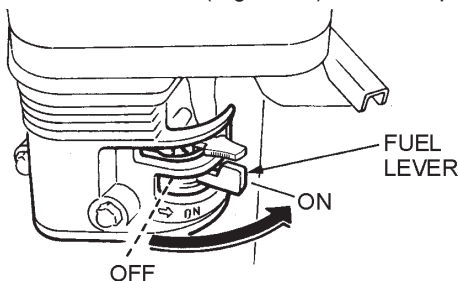

Figure 19. Engine Fuel Valve Lever
1. Place the **fuel valve lever** (Figure 19) to the **ON** position.